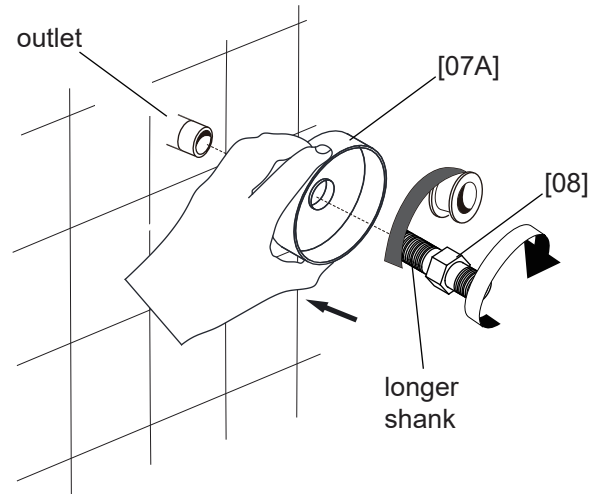

Fig 4.2
- 4-2** Slide the **Base [07B]** to the **outlet**. The deeper side of the **Base [07B]** face outside. Install the longer shank of **Nipple [08]** to the outlet and tighten it. Use plumbing tape to ensure good sealing performance. (Fig 4.2)